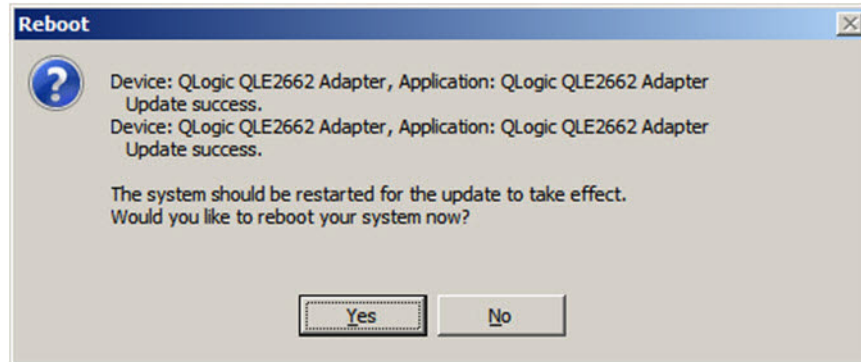

Figure 3-4. Result of Installation
3. When complete, the installer indicates the result of the installation (Figure 3-4). Click **Yes** to elect to reboot.